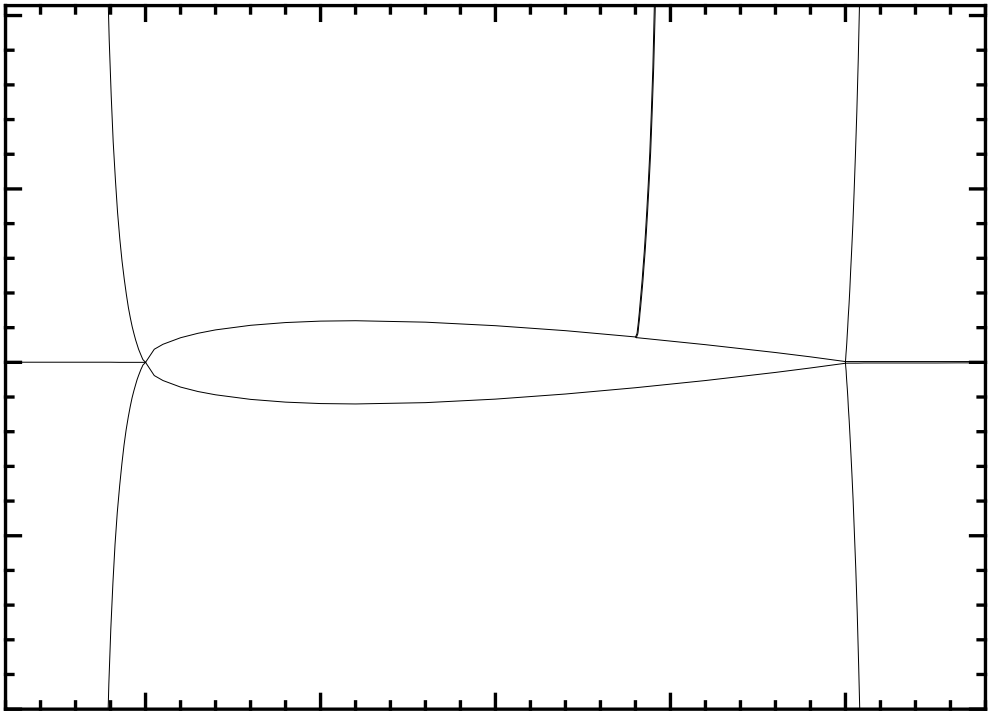

Figure 6.24: Domain decomposition for Test Case 10
3. Domain decomposition plots (figures 6.24 and 6.25)